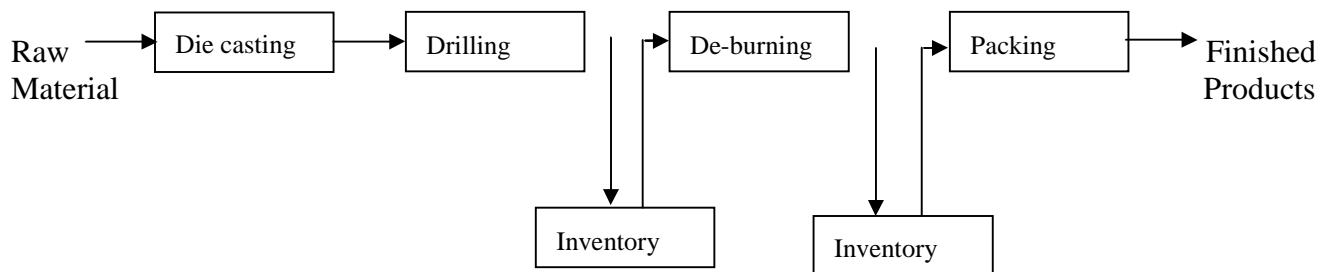

Fig: 3.3 Decoupling of operation using inventory
1. Inventories are needed to reduce the dependencies among successive stages of operations so that shortage of materials, breakdowns or other production fluctuations at one stage do not cause later stage to shut down. This is illustrated in the following figure 3.3 in an engineering unit.